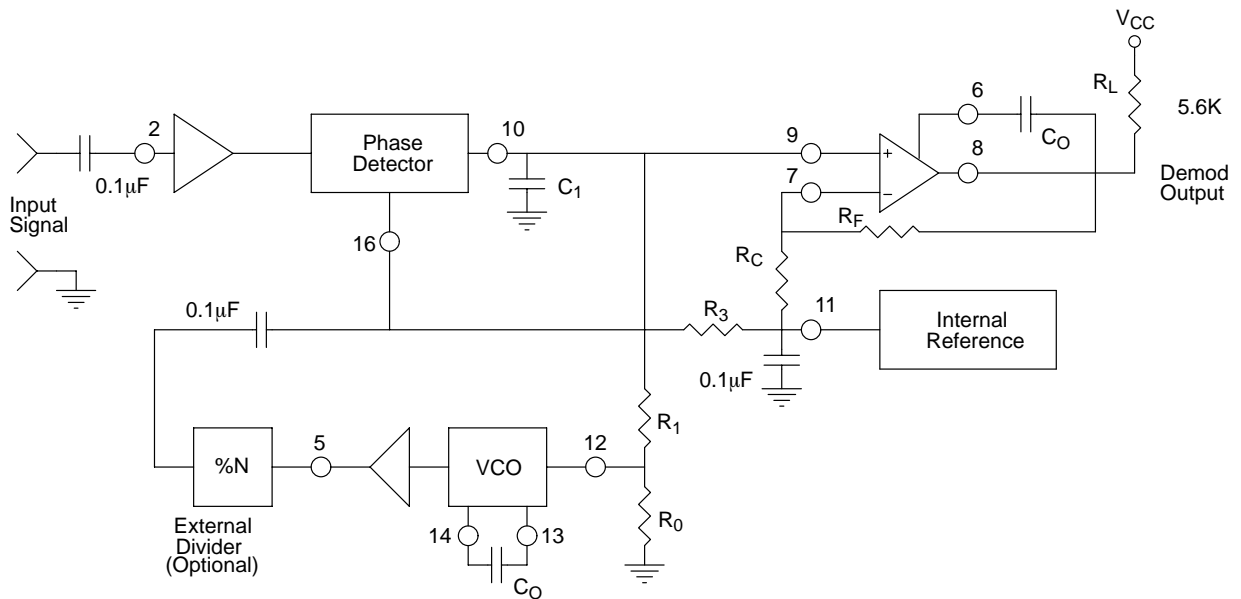
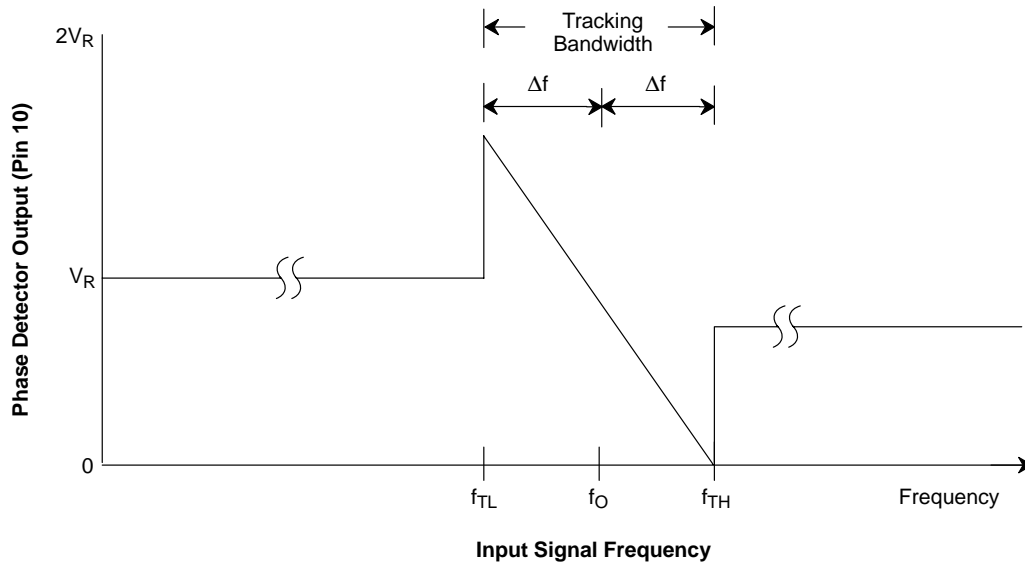
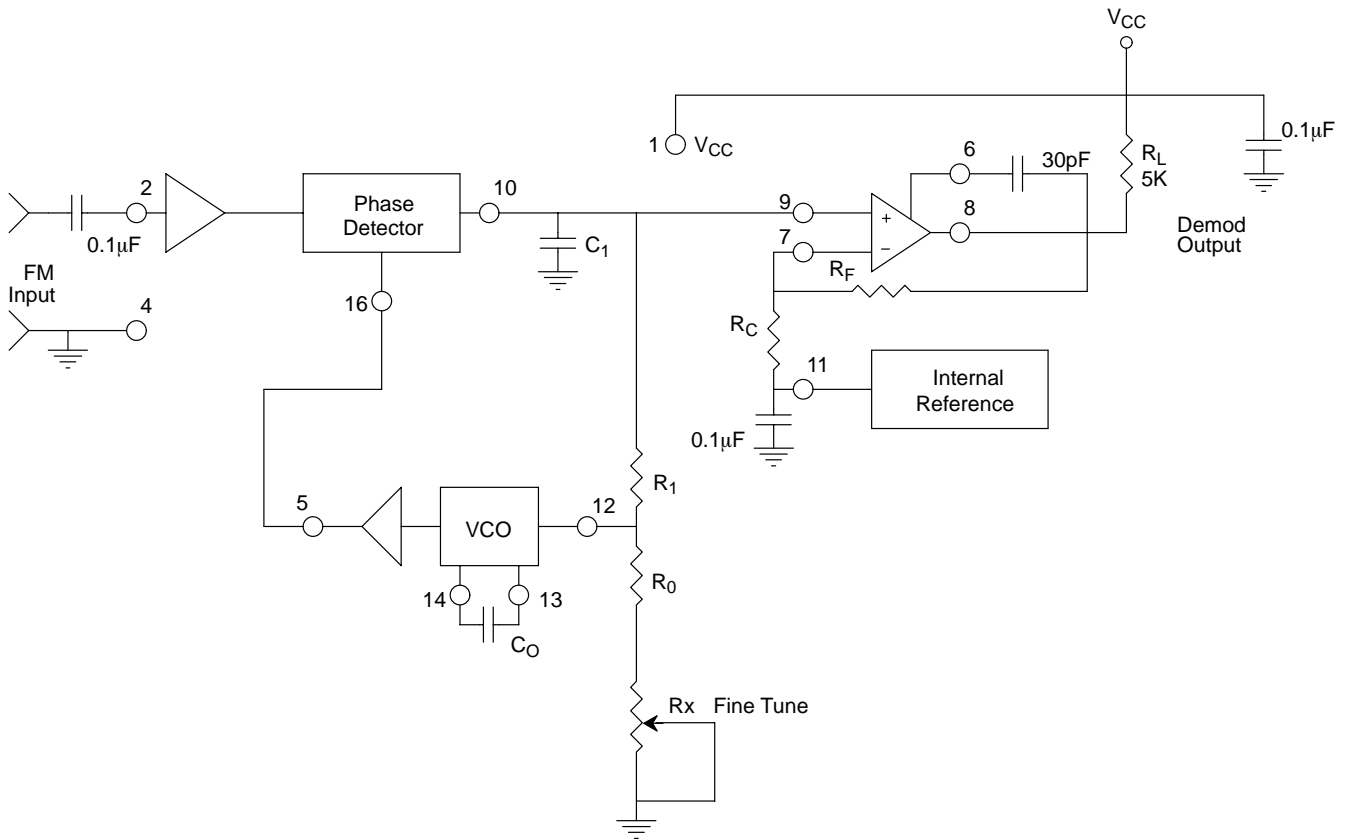

Figure 3. Generalized Circuit Connection for FM Detection, Signal Tracking or Frequency Synthesis
Figure 10. Phase Detector Output Voltage (Pin 10) as a Function of Input Signal Frequency
Figure 11. Circuit Connection for FM Demodulation
Test Conditions: $V_{CC} = +12V$, $T_A = +25^\circ C$, $R_0 = 30k\Omega$, $C_0 = 0.033\mu F$, unless otherwise specified. See *Figure 3* for component designation.
Phase Detector Output (Pin 10): This terminal provides a high-impedance output for the loop phase-detector. The PLL loop filter is formed by R_1 and C_1 connected to Pin 10 (see Figure 3). With no input signal, or with no phase-error within the PLL, the DC level at Pin 10 is very nearly equal to V_{REF} . The peak voltage swing available at the phase detector output is equal to $\pm V_{REF}$.
VCO Frequency Adjustment: VCO can be fine-tuned by connecting a potentiometer, R_X , in series with R_0 at Pin 12 (see Figure 11).
Figure 10 shows the basic frequency to voltage characteristics of XR-2212. With no input signal present, filtered phase detector output voltage is approximately equal to the internal reference voltage, V_{REF} at Pin 11. The PLL can track an input signal over its tracking bandwidth, shown in the figure. The frequencies f_{TL} and f_{TH} represent the lower and the upper edge of the tracking range, f_0 represents the VCO center frequency.
(See *Figure 3* and *Figure 10* for definition of components.)
7. VCO Conversion Gain, K_0 : (K_0 is the amount of change in VCO frequency, per unit of DC voltage change at Pin 10. It is the reciprocal of the slope of conversion characteristics shown in *Figure 10*).
XR-2212 can be used as a linear FM demodulator for both narrow-band and wide-band FM signals. The generalized circuit connection for this application is shown in *Figure 11*, where the VCO output (Pin 5) is directly connected to the phase detector input (Pin 16). The demodulated signal is obtained at phase detector output (Pin 10). In the circuit connection of *Figure 10*, the op amp section of XR-2212 is used as a buffer amplifier to provide both additional voltage amplification as well as current drive capability. Thus, the demodulated output signal available at the op amp output (Pin 8) is fully buffered from the rest of the circuit.
In the circuit of *Figure 11*, R_0C_0 set the VCO center frequency, R_1 sets the tracking bandwidth, C_1 sets the low-pass filter time constant. Op amp feedback resistors R_F and R_C set the voltage gain of the amplifier section.
The circuit of *Figure 11* can be tailored to any FM demodulation application by a choice of the external components R₀, R₁, R_C, R_F, C₀ and C₁. For a given FM center frequency and frequency deviation, the choice of these components can be calculated as follows, using the design equations and definitions given on page 10.
Note: All calculated component values except R_0 can be rounded-off to the nearest standard value, and R_0 can be varied to fine-tune center frequency, through a series potentiometer, R_X , (See Figure 11).
The total tracking range of the PLL (see Figure 10), should be chosen to accommodate the lowest and the highest frequency, f_{max} and f_{min} , to be synthesized. A recommended choice for most applications is to choose a tracking half-bandwidth Δf , such that:
- d) Calculate R_1 to set tracking bandwidth (see *Figure 10* and design equation 5). If a range of output frequencies are desired, set R_1 to get: